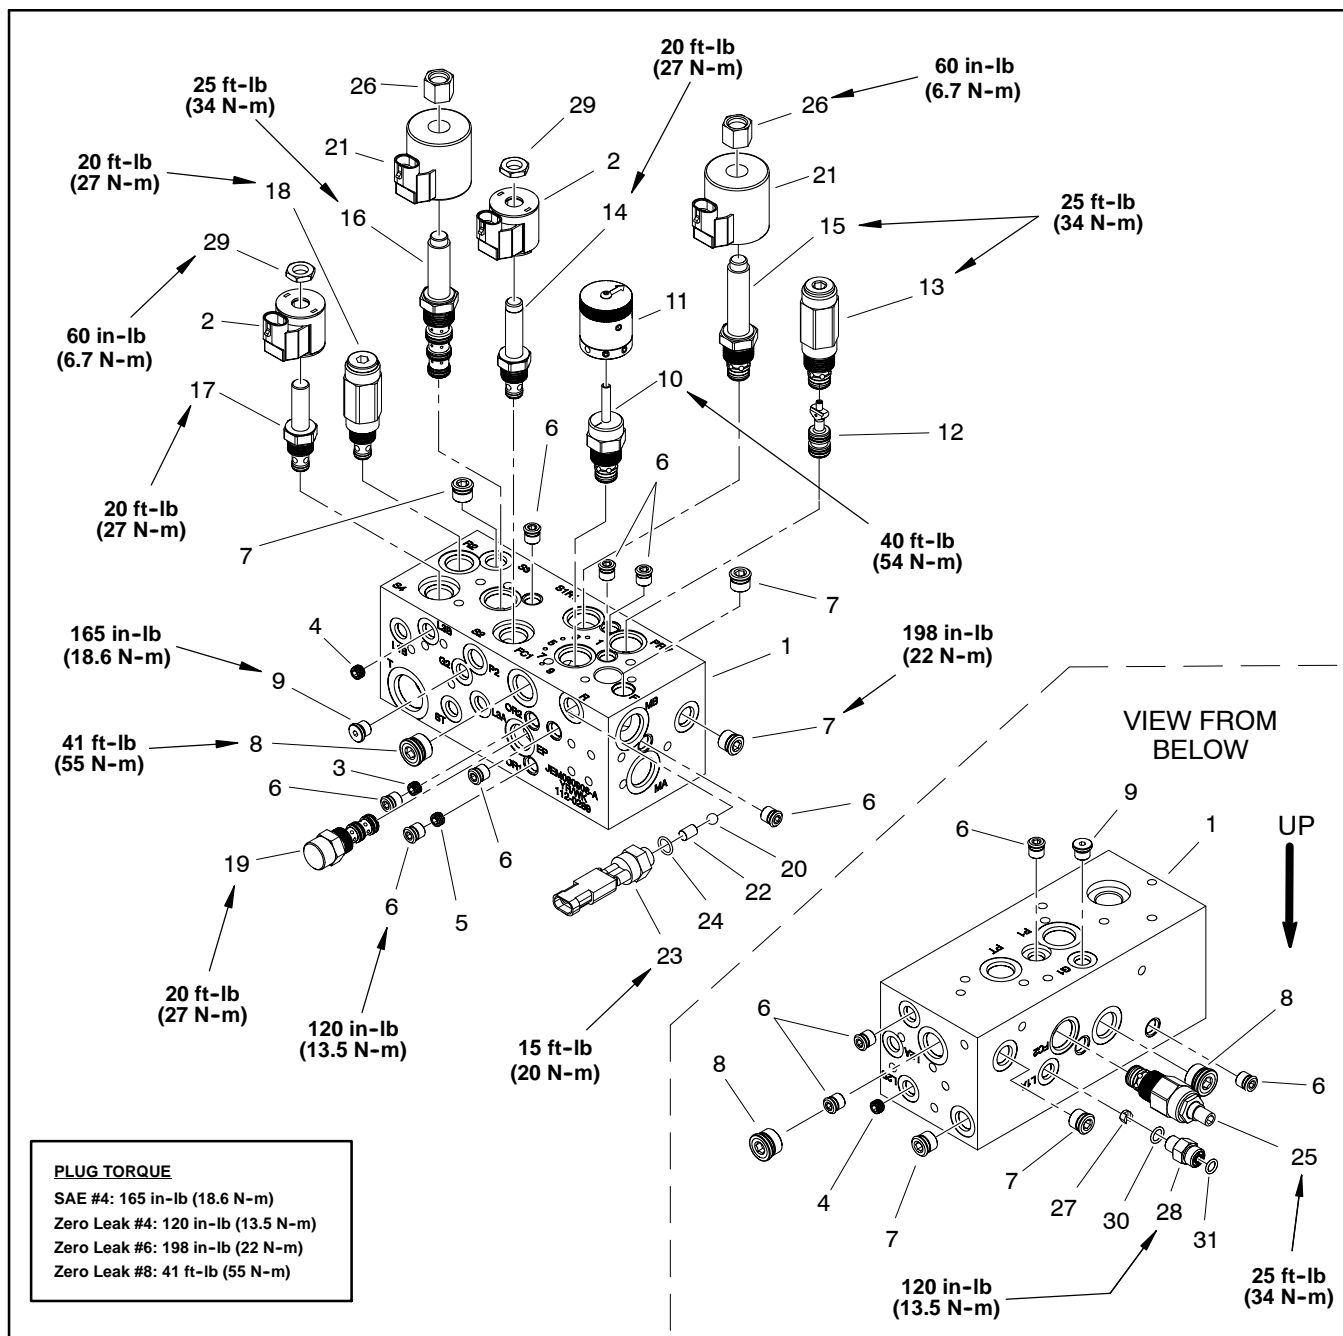

Figure 59
**NOTE:** The hydraulic manifold shown in Figure 59 uses several zero leak plugs. These plugs have a tapered sealing surface on the plug head that is designed to resist vibration induced plug loosening. The zero leak plugs also have an O-ring to provide a secondary seal. If zero leak plug removal is necessary, lightly rap the plug head using a punch and hammer before using an allen wrench to remove the plug; the impact will allow plug removal with less chance of damage to the socket head of the plug. When installing plugs into the manifold, torque plugs to the values identified in Figure 59.
C. Torque cartridge valve using a deep well socket to specification shown in Figure 59.